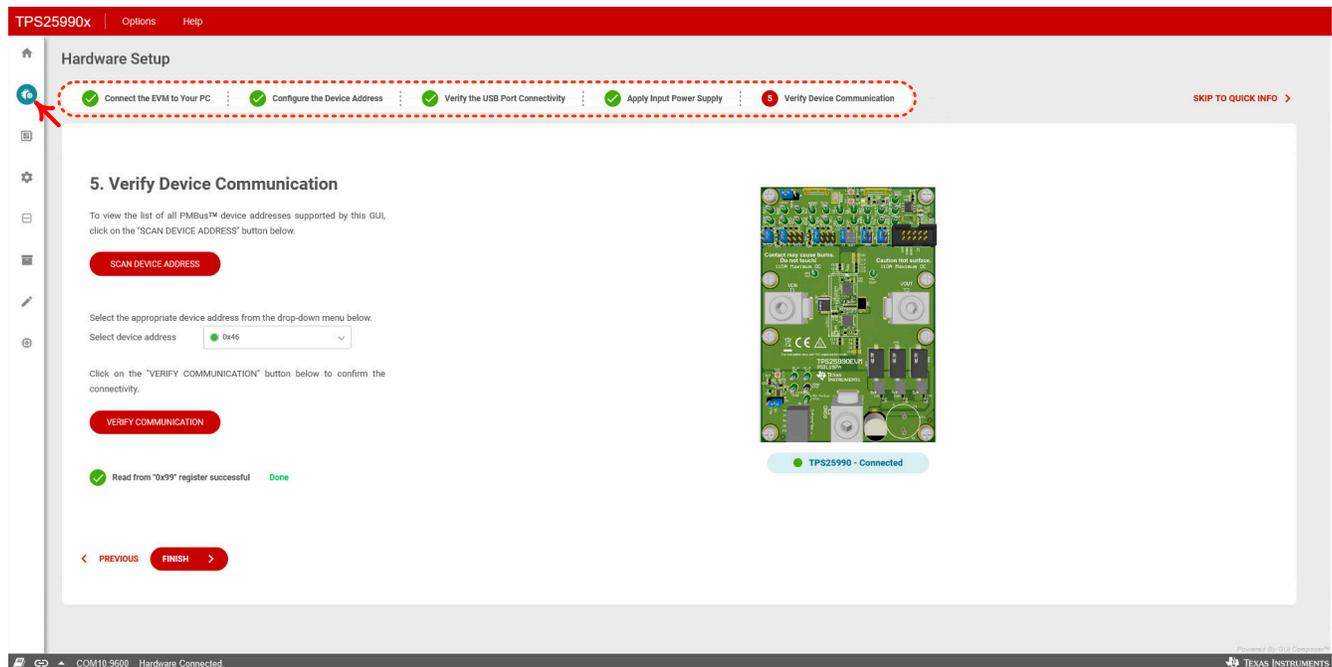
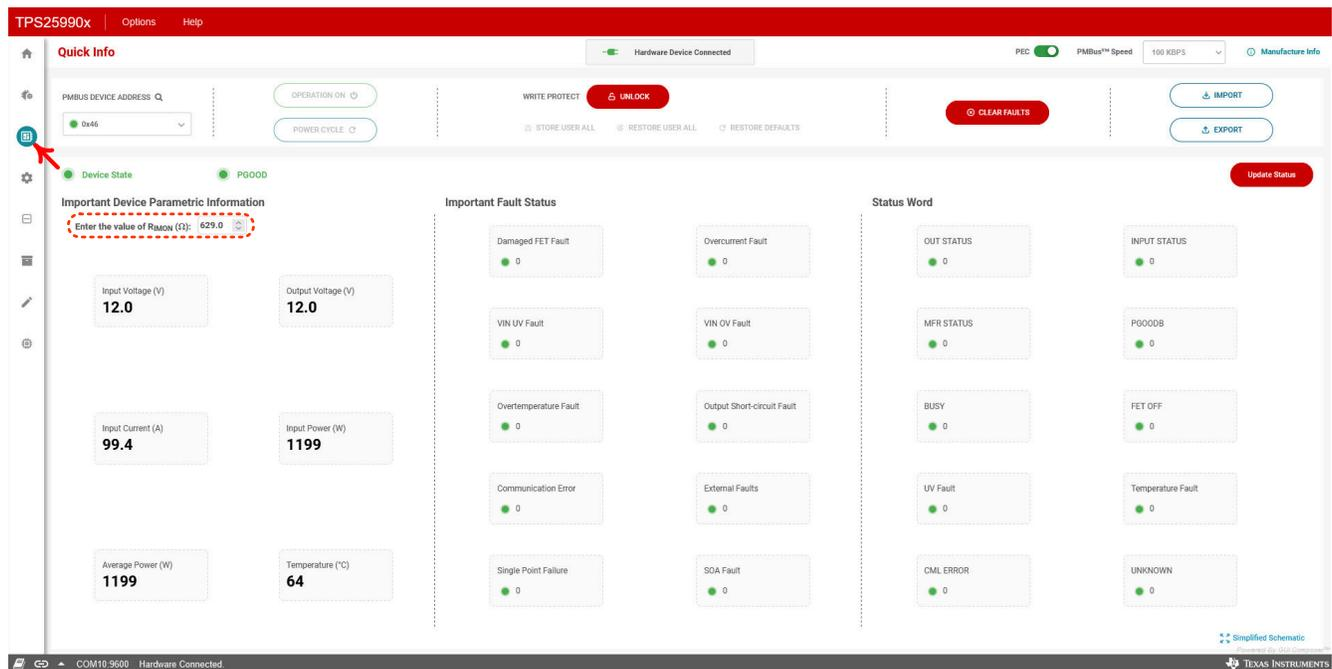

Figure 6-4. TPS25990EVM-GUI: Verify Device Connectivity
Figure 6-5. TPS25990EVM-GUI: Quick Info
Make sure to go through the all the steps carefully and verify the device communication at Step-5 on the *Hardware Setup* page as shown in Figure 6-4, after completing all the previous four steps as outlined.
As presented in Figure 6-5, users reach to the *Quick Info* page after clicking on the *FINISH* icon upon verifying the device communication, depicted in Figure 6-4. As shown in Figure 6-5, this page can also be accessed by clicking on the *Quick Info* icon on the left side of the GUI. The *Quick Info* page provides the following features.
A correct value of input current (A) and input power (W) can only be obtained by updating R_{IMON} in the GUI (as pointed out by placing a RED circle in Figure 6-5) so that it matches the resistance placed at the IMON pin on the EVM.